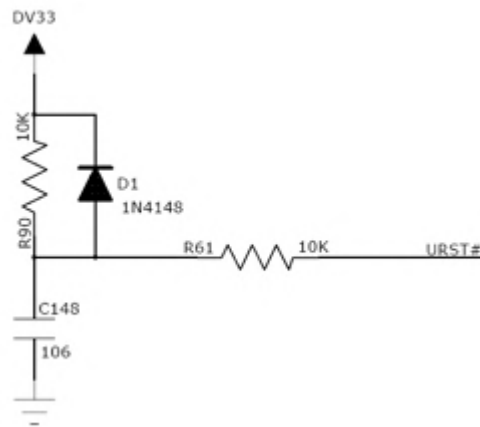

Figure 3.2.15.1 Reset circuit diagram
1. Reset circuit is shown in the figure 3.2.15.1: